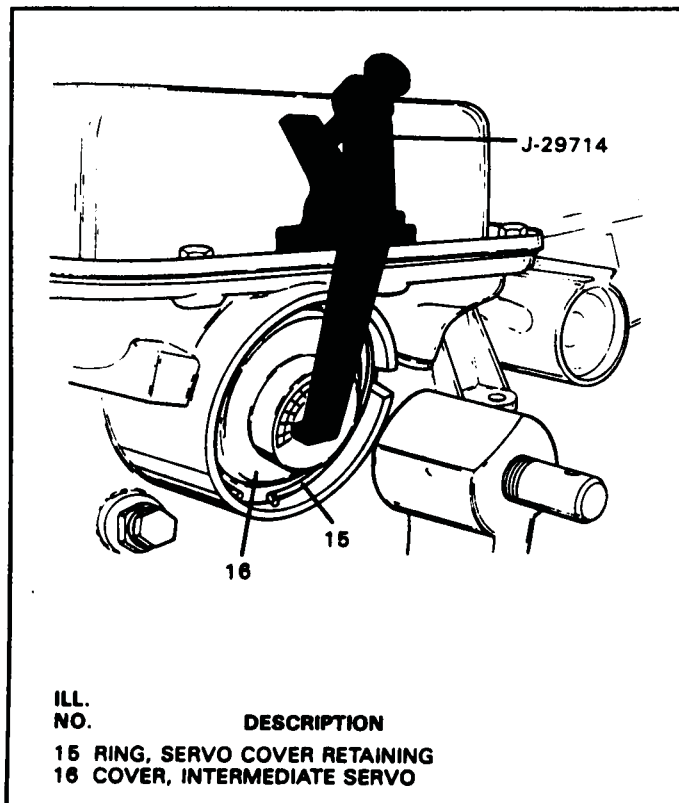

Figure 144
6. Install J-29714 servo compressor tool on case, as shown in Figure 144.
7. Compress the servo cover by turning the hex nut on the tool, as shown in Figure 144.
8. Install the servo cover snap ring into the case, as shown in Figure 144.